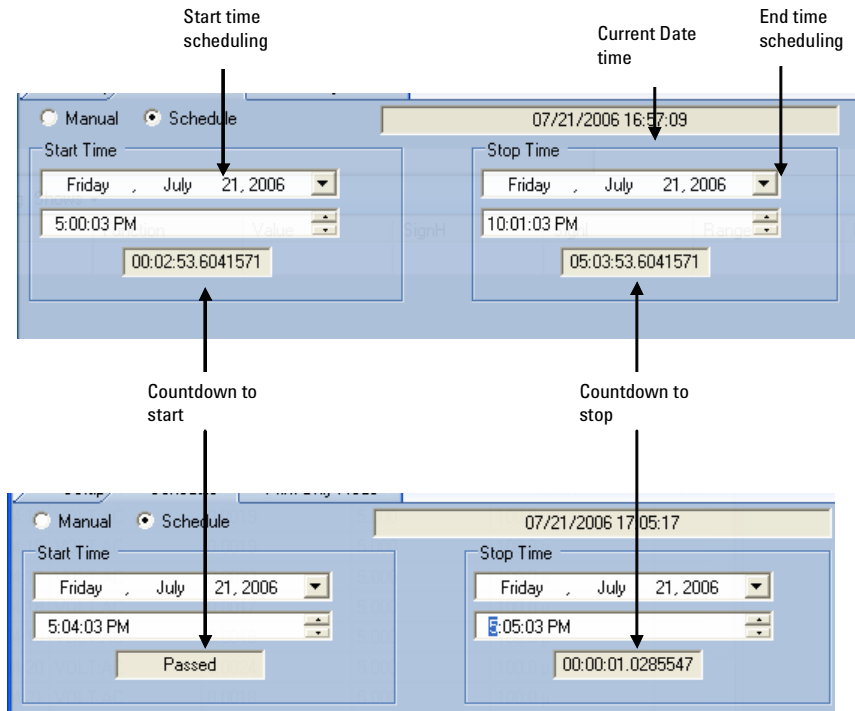

Figure 26 Scheduling mechanism
- ✓ Besides manually to the log data, this GUI also provides scheduling mechanism. To activate auto scheduling, choose **Schedule** (Figure 26). Then, set the start and stop time preferred. When the scheduling mechanism activated, the manual data logging functions icon